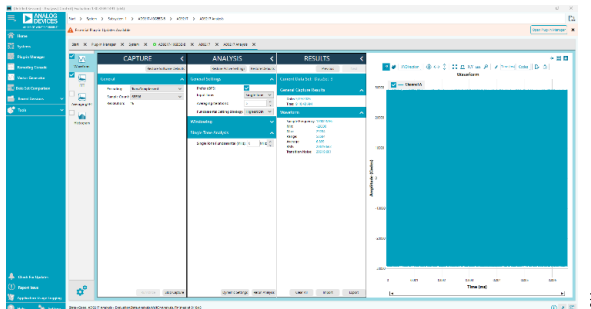

Figure 14. Time Domain Analysis of the Converted Data
15. When using full bandwidth mode, the time domain analysis of the converted data appears (see Figure 14).